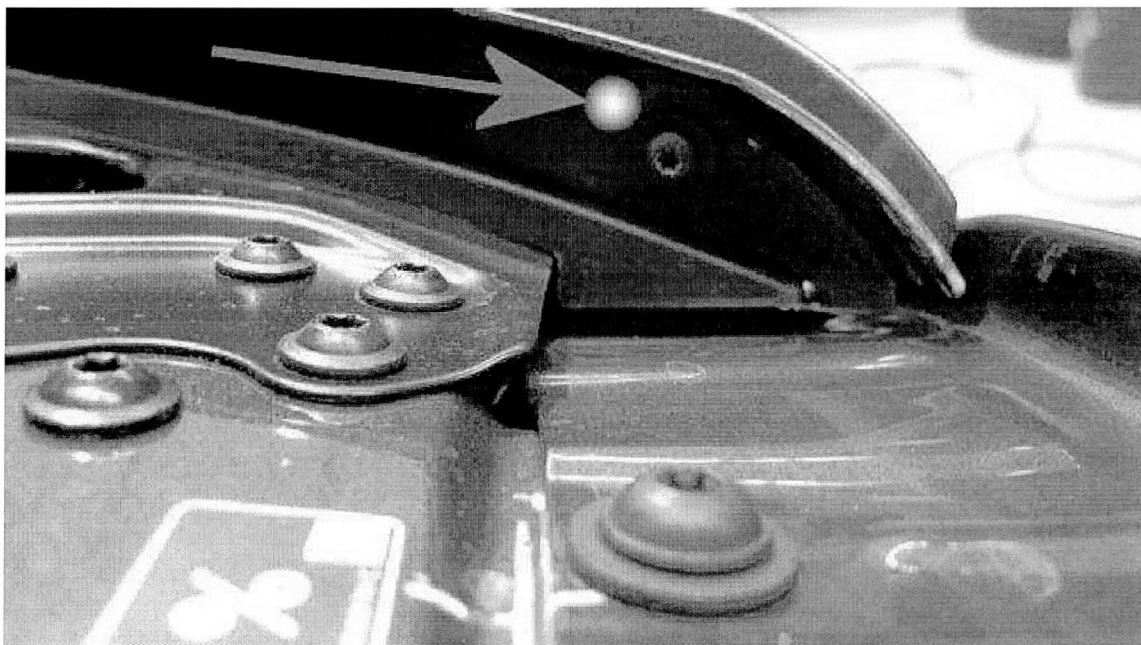

Figure 17
If the vehicle is not already listed in "Repair history" (in Elsa Pro) check for the (SC 13/06) Campaign identification mark, which is a White paint mark next to the right hand radiator shell fixing as shown in Figure 17, Please also read the Technical background section of this procedure. Should none of the afore mentioned be evident please carry out the required work in accordance with these instructions.
7. Place a White paint confirmation mark on the right hand radiator shell fixing as shown in Figure 17
White paint completion mark on the right hand radiator shell fixing (see Figure 17)